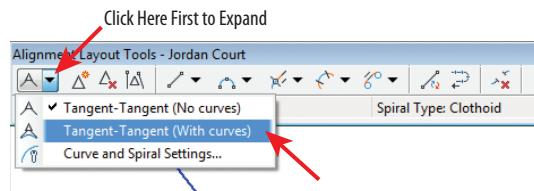

FIGURE 5.3 Selecting the Tangent-Tangent (With Curves) command
5. On the Alignment Creation Tools toolbar, click the black triangle on the first button on the left to expand it downward (see Figure 5.3). Then click **Tangent-Tangent (With Curves)**.